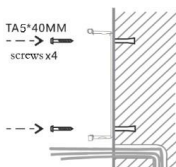

Figure 3-4
A. Align the screw holes of the wall bracket with the holes in the wall and fix them to the wall with the TA4*30mm screws, as shown in Figure 3-4.